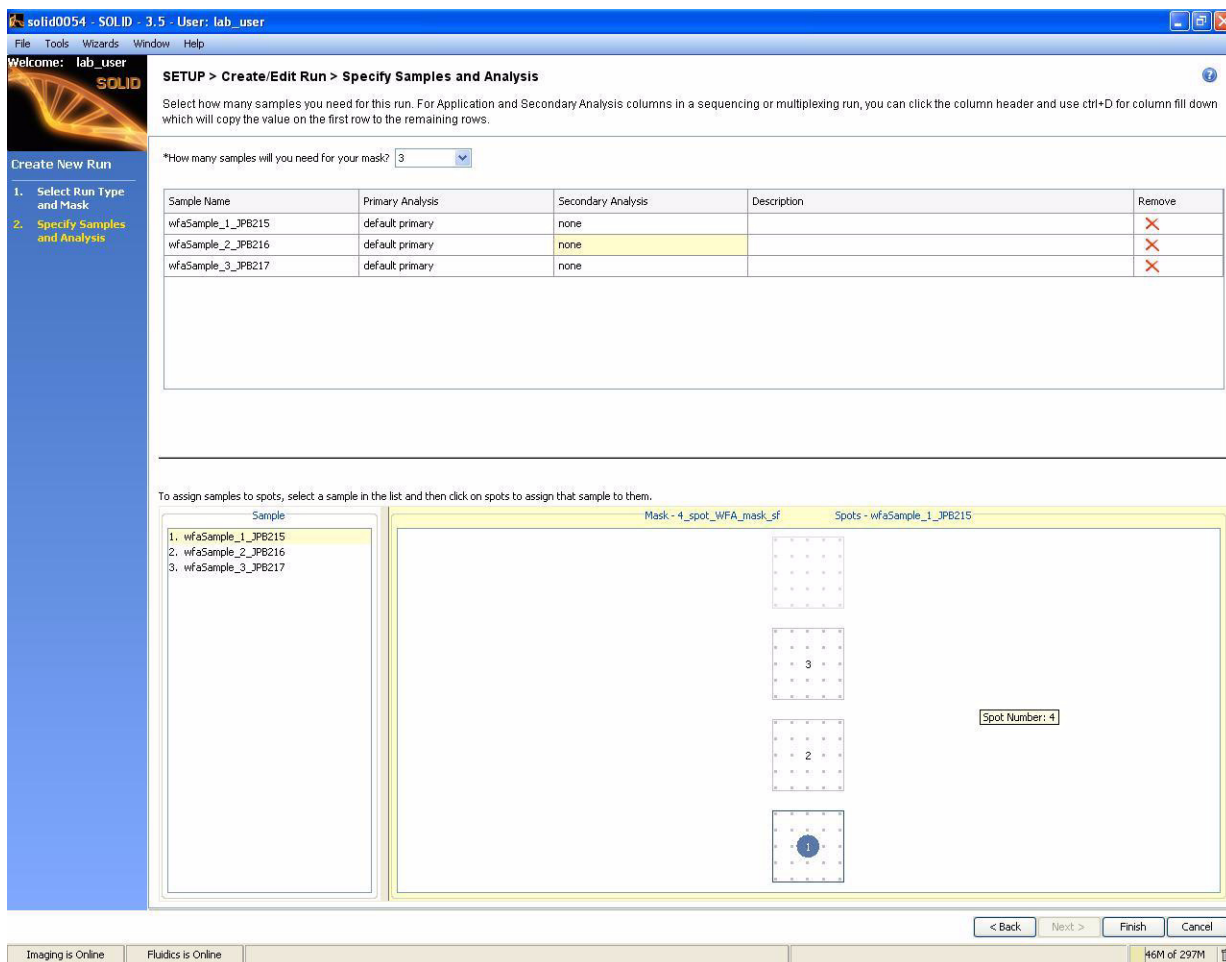

Figure 38 Complete the information in the Specify Samples and Analysis pane.
3. Complete the information in the Specify Samples and Analysis pane (see Figure 38 on page 43):